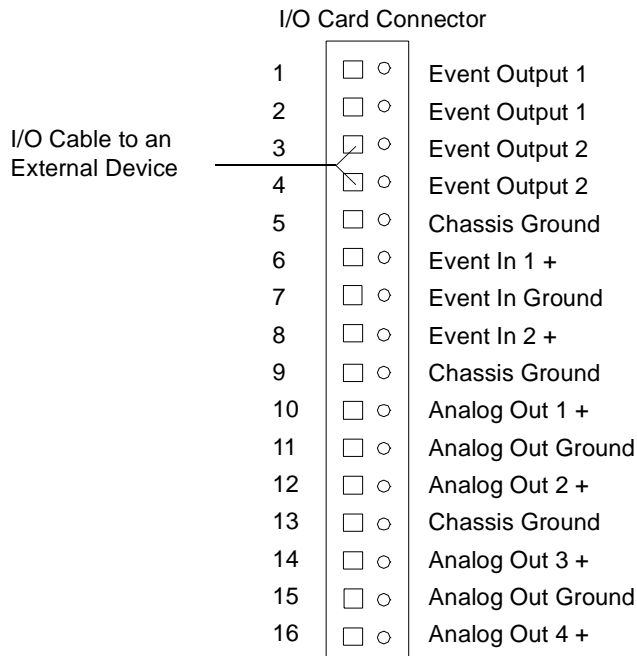

Figure 2-14 Event Output Signal Connections on the I/O Card
1. Connect one end of an I/O cable to an event output pin and chassis ground pin on the I/O card (Figure 2-14).